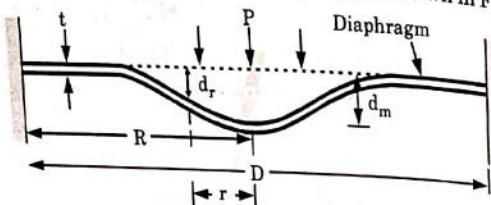

Fig. 5.21.3. Flat diaphragm.
5. The displacement of the diaphragm may be measured to determine the value of applied pressure, P . A flat diaphragm is shown in Fig. 5.21.3.